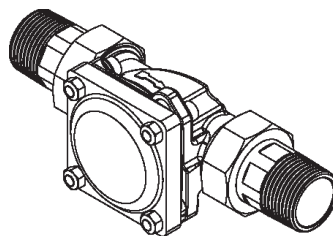
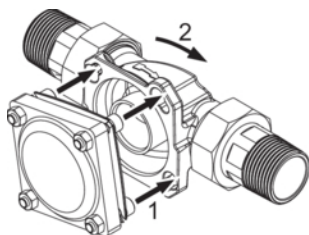

Fig. 4: Connection of appliance engaged
Fig. 3: Attach and engage appliance
1. Insert the heads of the four flange screws through the bayonet holes on the rotary flange fitting (see Figure 3).
2. Turn the appliance in clockwise direction up to the stop (see Figure 3 and Figure 4).